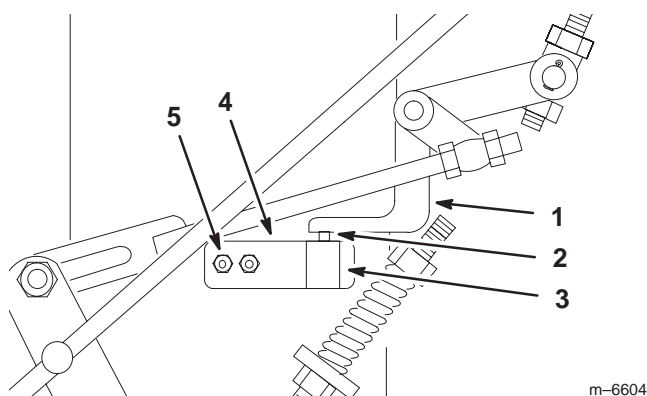

Figure 49
11. With the speed control lever in the neutral position, check to make sure the safety switch is depressed and there is an 1/8 to 1/4 inch (3 to 6 mm) space between the actuating tab and the safety switch (Fig. 49).
12. To adjust the switch location, loosen the two neutral bracket screws holding the switch plate to the frame (Fig. 49).
13. Adjust the switch up or down to obtain an 1/8 to 1/4 inch (3 to 6 mm) space (Fig. 49).
14. Tighten the two neutral bracket screws holding the switch plate (Fig. 49).